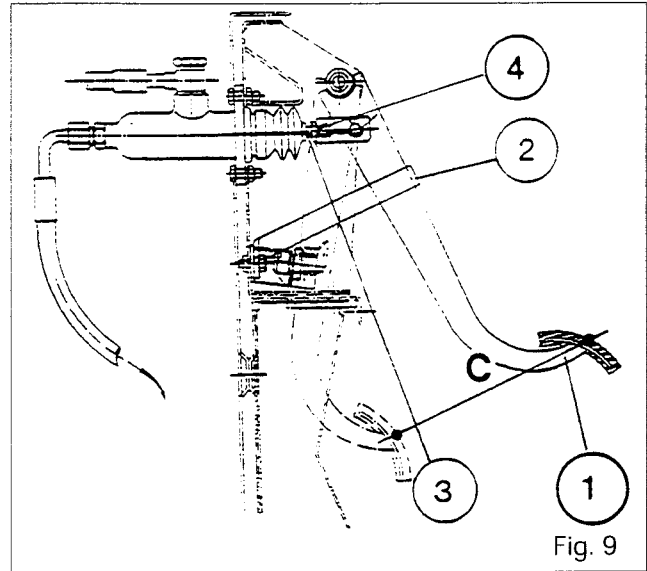

Fig. 9
**Clutch** - Pressure-loaded**F. Adjusting the clutch pedal (Fig. 9)**
88. With the clutch pedal (1) at the stop (2), adjust in order to obtain a clearance of 0.5 to 1 mm between the push-rod (3) and the master cylinder piston. Tighten the locknut (4) to a torque of 15 to 20 Nm.